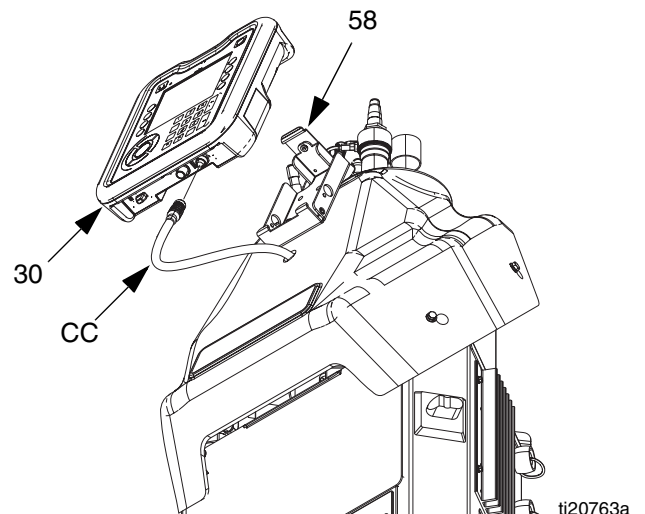

FIG. 50
2. Disconnect cable (CC) from bottom of ADM (30). See FIG. 50.
3. Remove ADM from bracket (58).